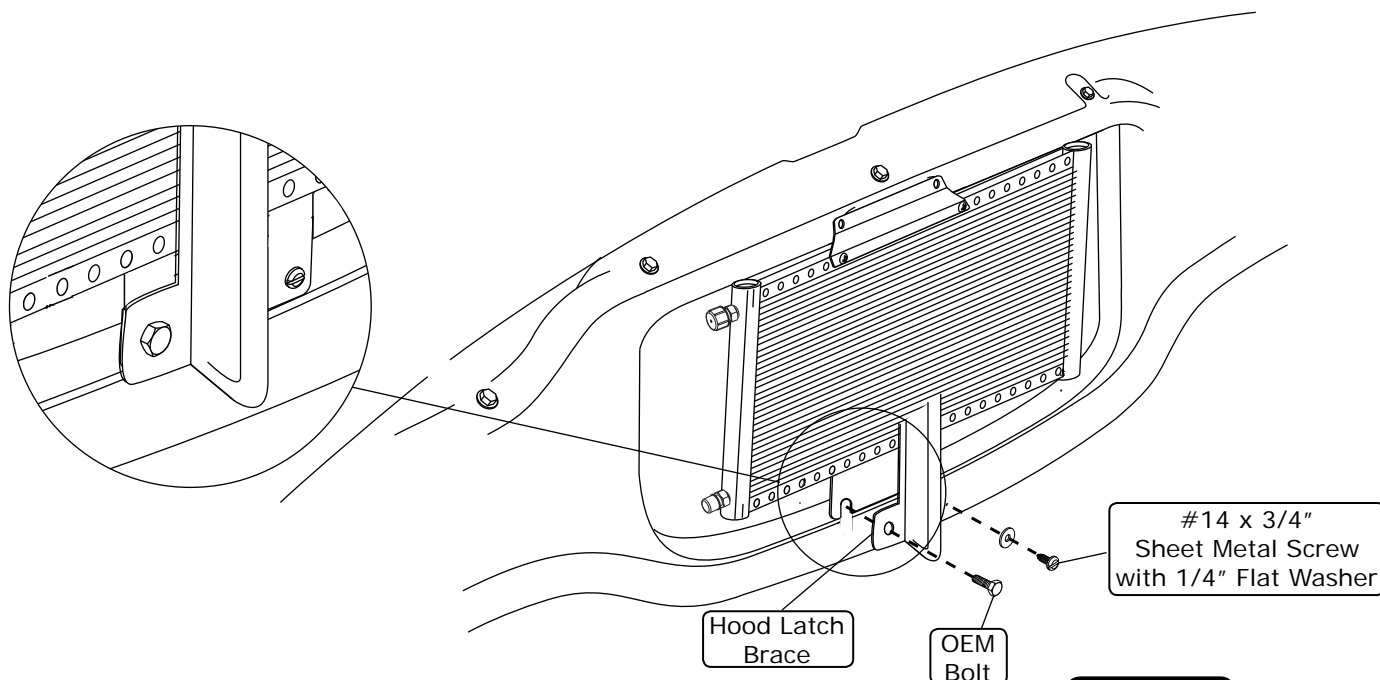

Figure 2
2. Install the bottom mounting bracket onto the condenser using (2) 10-24 x 3/8" pan head screws and (2) 10-24 nuts with star washers as shown in Figure 2, below. **NOTE: The bracket mounts through the 7th and 11th holes from the right side of the condenser (Rear View).**
2. Secure the bottom passenger side of the condenser to the core support using the OEM bolt as shown in Figure 2, below.
3. Using the driver side mounting hole as a guide, drill a 3/16" hole into the core support. Secure the condenser to the core support using a #14 x 3/4" sheet metal screw with a 1/4" flat washer as shown in Figure 2, below.